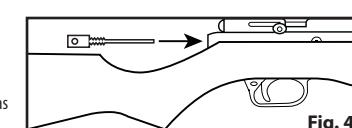

Fig. 4
3. Insert the degassing tool (Sold Separately at Crosman.com) into the threaded plug as shown in Figure 4.